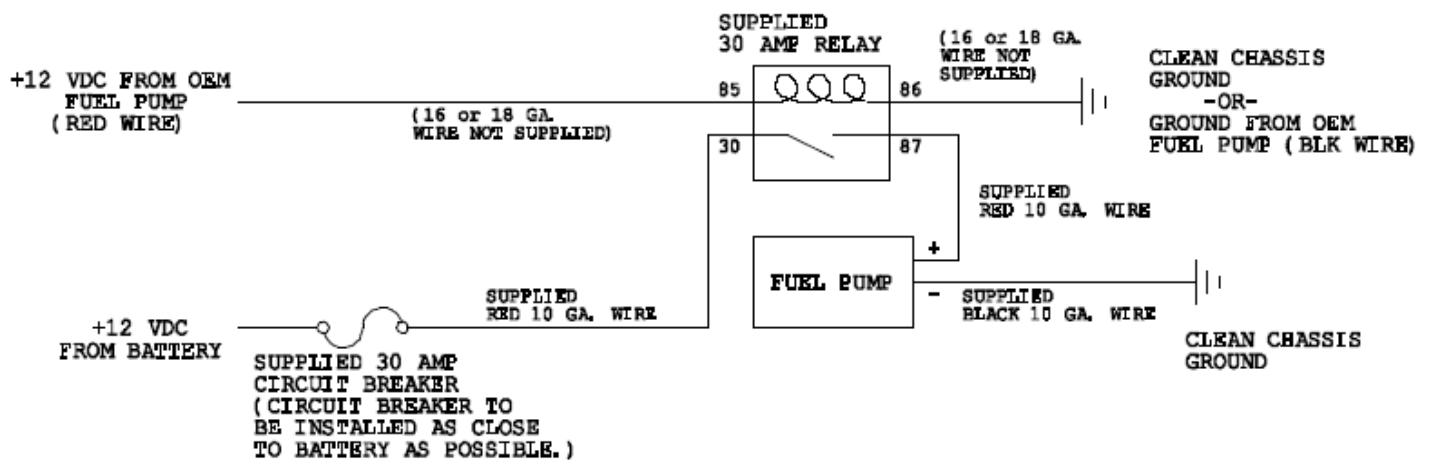

Figure 4-1
- 4-2. Attach the OEM fuel pump wires (These typically are the red and black wires from the OEM wiring harness going to the fuel tank) to relay terminals 85 and 86 using two of the supplied blue female blade connectors (See Figure 4-1 Below).
- 4-8. Ensure that electrical components and wires are connected properly (See Figure 4-1) and are clear of any moving suspension or drivetrain components and any exhaust components! Protect wires from abrasion and road obstructions or debris.